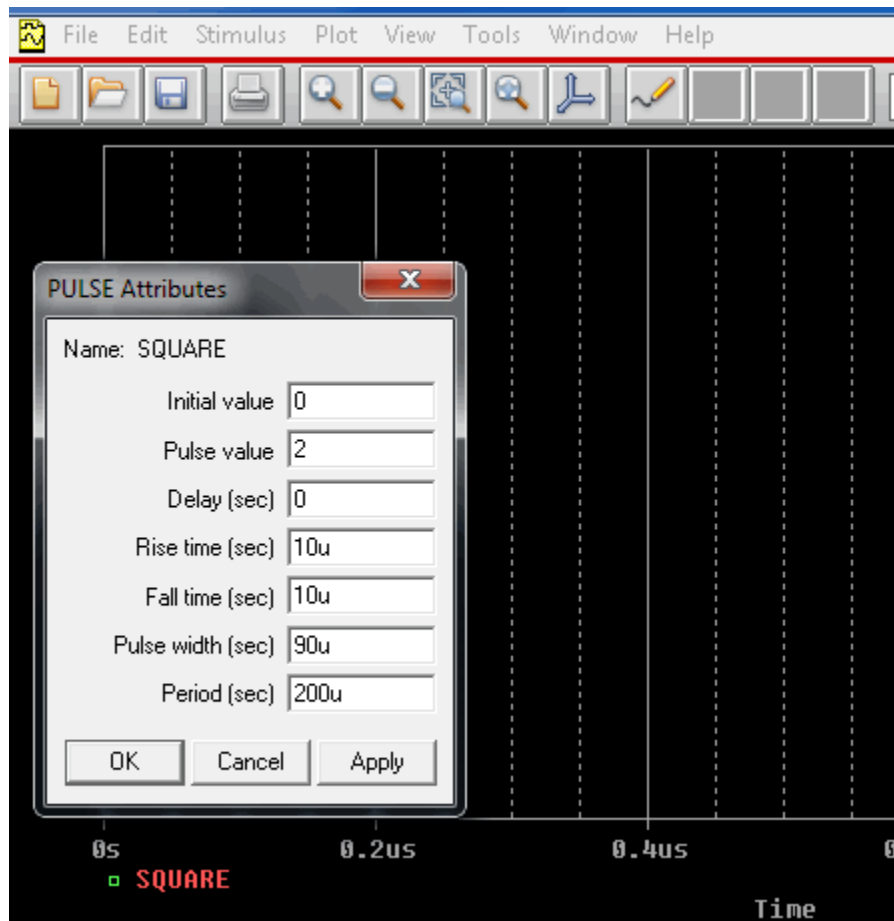
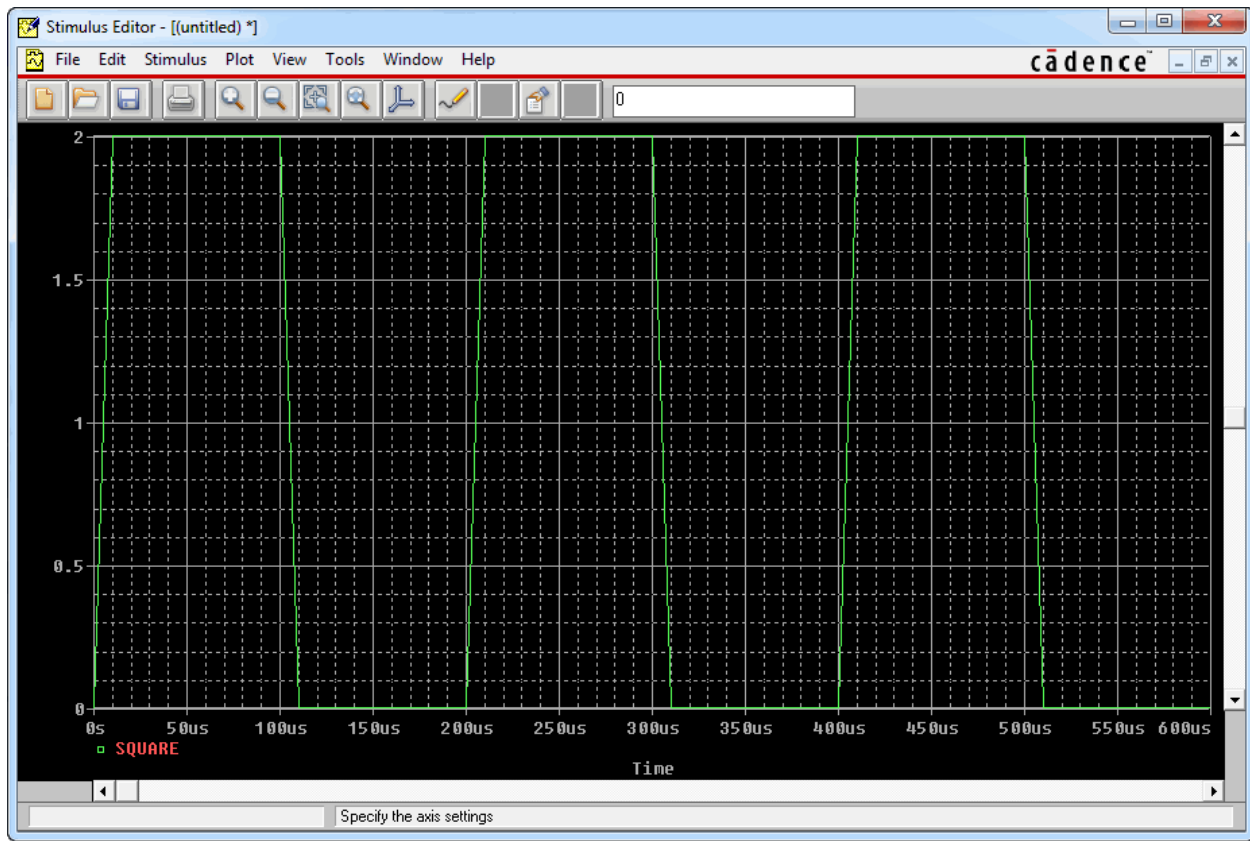

Figure 2-15: Pulse Attributes Settings
Figure 2-16: “Square” Stimulus Waveform
15. You will define a 2V (peak amplitude) square wave with a period of 200us and 10us rise and fall times. Fill in the **PULSE Attributes** form, as shown in Figure 2-15 and click on **OK**.
16. The **Stimulus Editor** now shows the SQUARE stimulus, as in Figure 2-16. Examine it in the context of the pulse attributes in Figure 2-15.